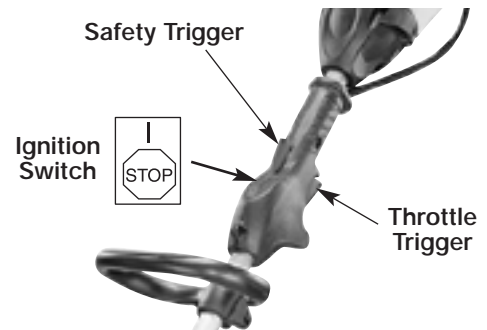

Fig. 6
2. Move the ignition switch to the Run position (Fig. 6).
5. Grip the handle firmly and press the safety trigger and press/squeeze the throttle trigger to the Full Throttle position (Fig. 6).
1. Move the ignition switch to the Run position (Fig. 6).
3. Grip the handle firmly and press/hold the safety trigger. Then press the throttle trigger to the Full Throttle position (Fig. 6).